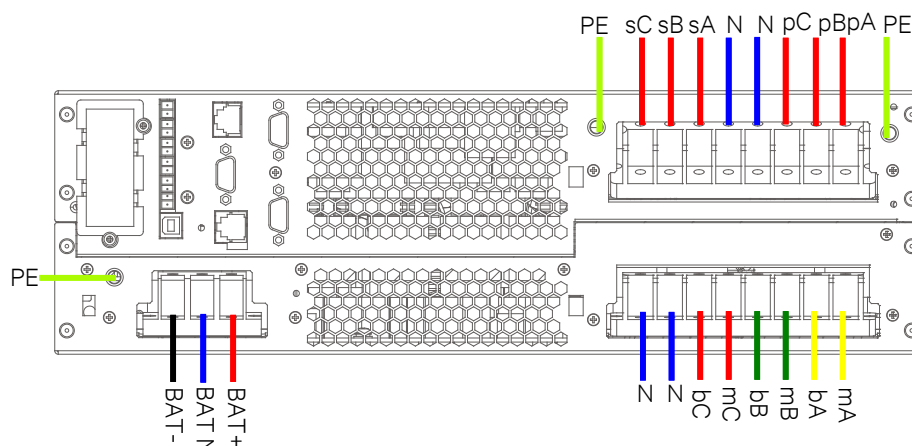

Figure 2-24 Wiring diagram (3-in 3-out, split-bypass configuration)
Connect the output N line and output PE line respectively to the output terminals N and PE. As shown in Figure 2-24.
4. As shown in Figure 2-24, lead the battery positive cable, battery N cable and battery negative cable through the cable hole of the junction box, then respectively connect them to BAT+, BAT N, BAT- and PE, then fasten the fixing screws.